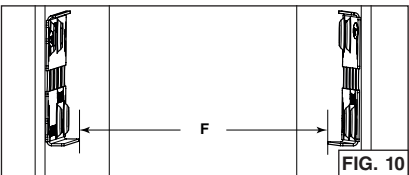

FIG. 10
6. Measure the distance between both bottom bracket edges (F) (FIG. 10). The table below shows the appropriate distance needed.